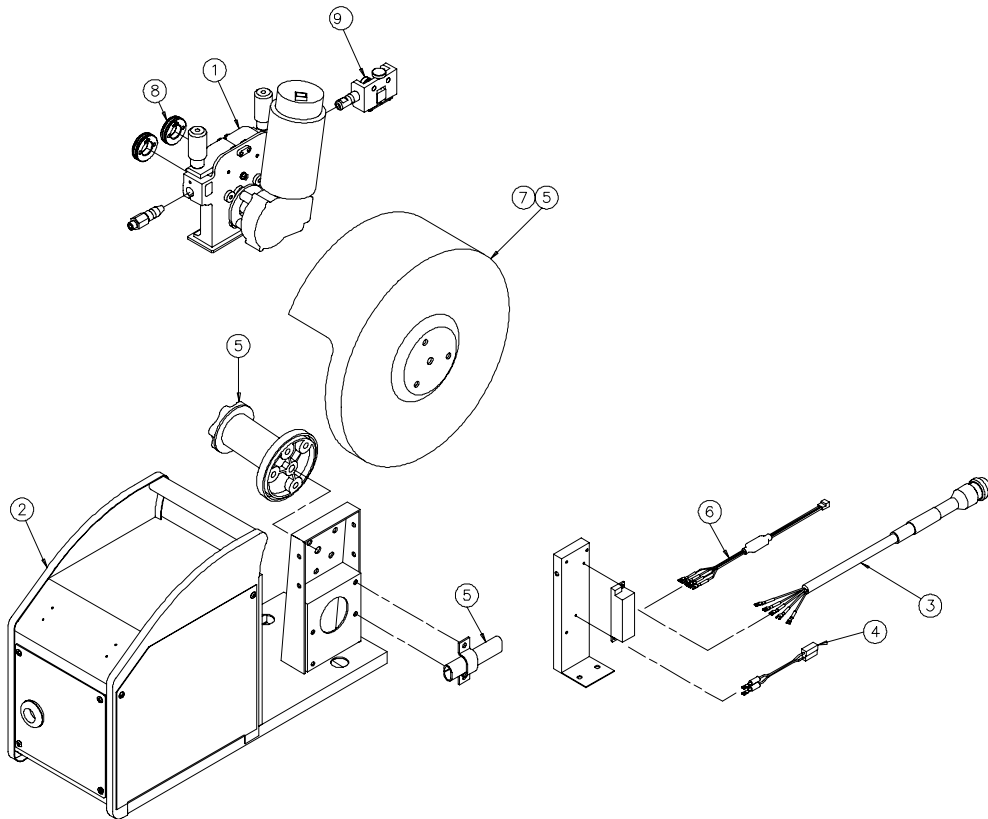

Fig. 7.1 Exploded diagram of wire feeding unit (AFTF-4201)
- If the parts are getting worn out or damaged while using the wire feeding unit, see Fig. 7.1 ~ 7.4 and Table 7.1 ~ 7.5 to place an order with our sales office or agent. When ordering, be sure to provide the item name and part No. Note that the component indicated by () for its quantity is an optional item.